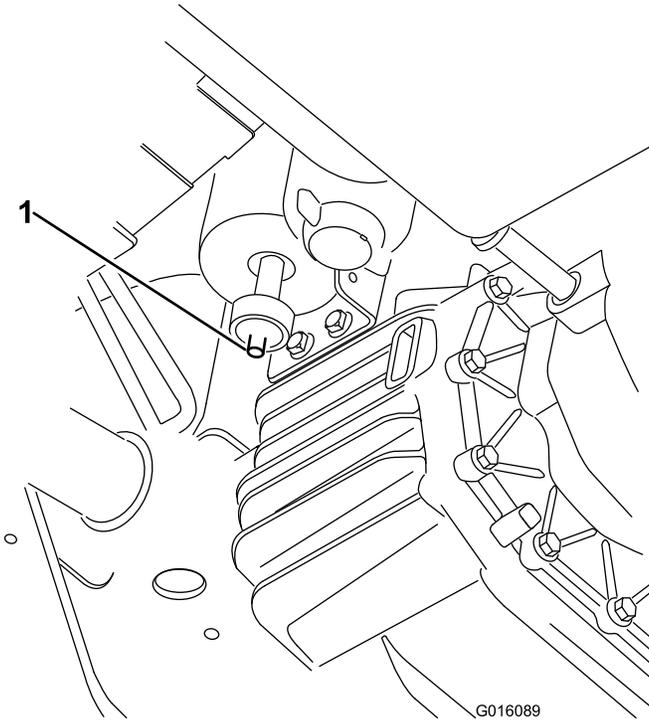

Figure 43
1. Locate the air filter on the bottom of the carbon canister (Figure 43).